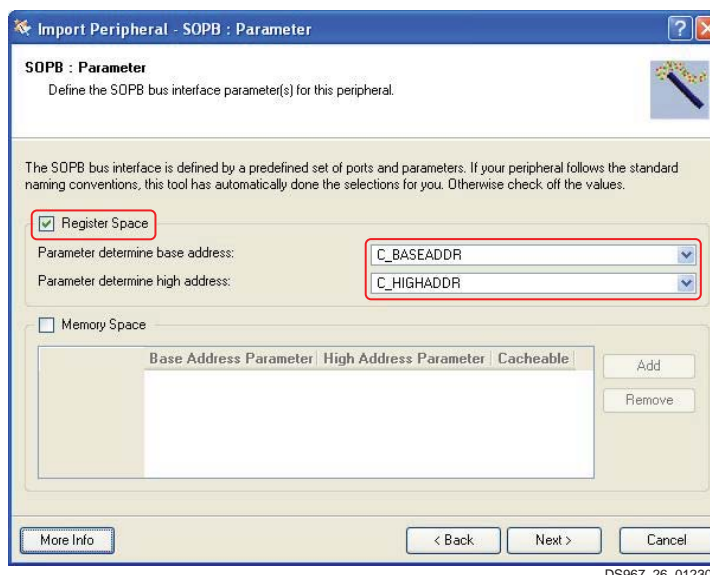

Figure 26: Defining the SOPB Parameters
9. Define the slave attachment parameters for the IP. In the **SOPB : Parameters** window, make the selections as shown in Figure 26.